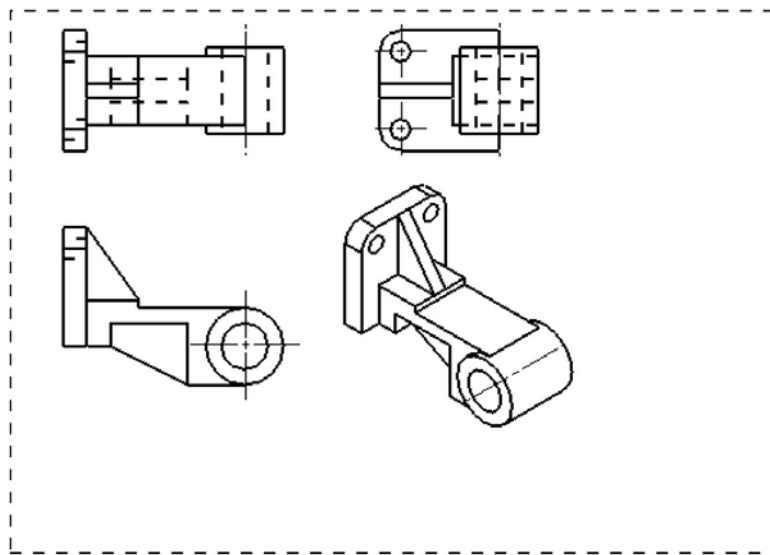

Figure 12-55 The drawing sheet after creating the drawing views
- Generate the drawing views of the model, refer to Figure 12-55.
2. Specify the center point for the generated drawing view, refer to Figure 12-55. After generating the base view, the **Projected View** tool is automatically invoked from the **View** group and the **Projected View** dialog box is displayed.
6. Choose the **OK** button to exit the **Settings** dialog box; the hidden lines are displayed. The top view, the right-side view, and the front view of the model are shown in Figure 12-55.
3. Specify the center point of the isometric view, refer to Figure 12-55. Then, press the middle mouse button to exit the tool. The resulting drawing sheet after generating the drawing views is shown in Figure 12-55.